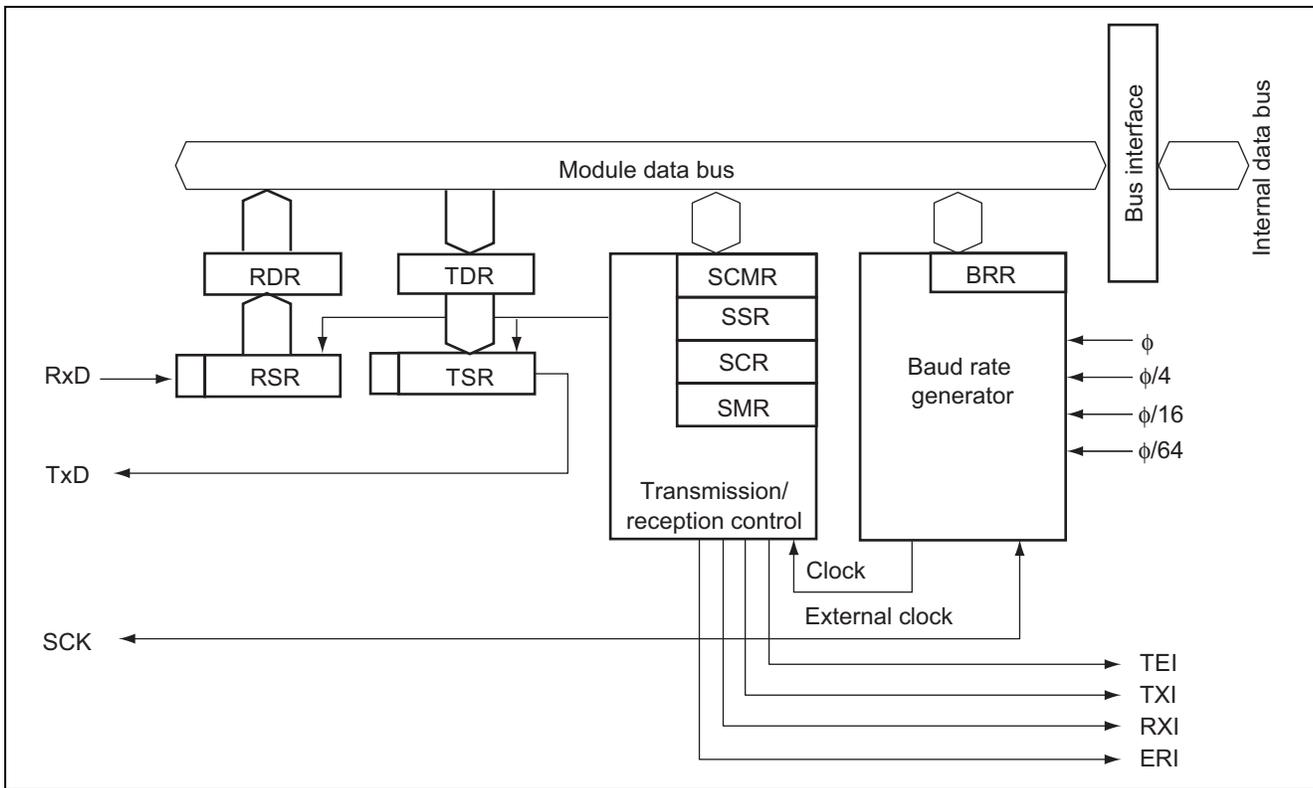

Figure 2 Block Diagram of Synchronous Serial Data Reception
1. Figure 2 shows a block diagram of the serial communication interface (SCI), and the following is the description for the block diagram: